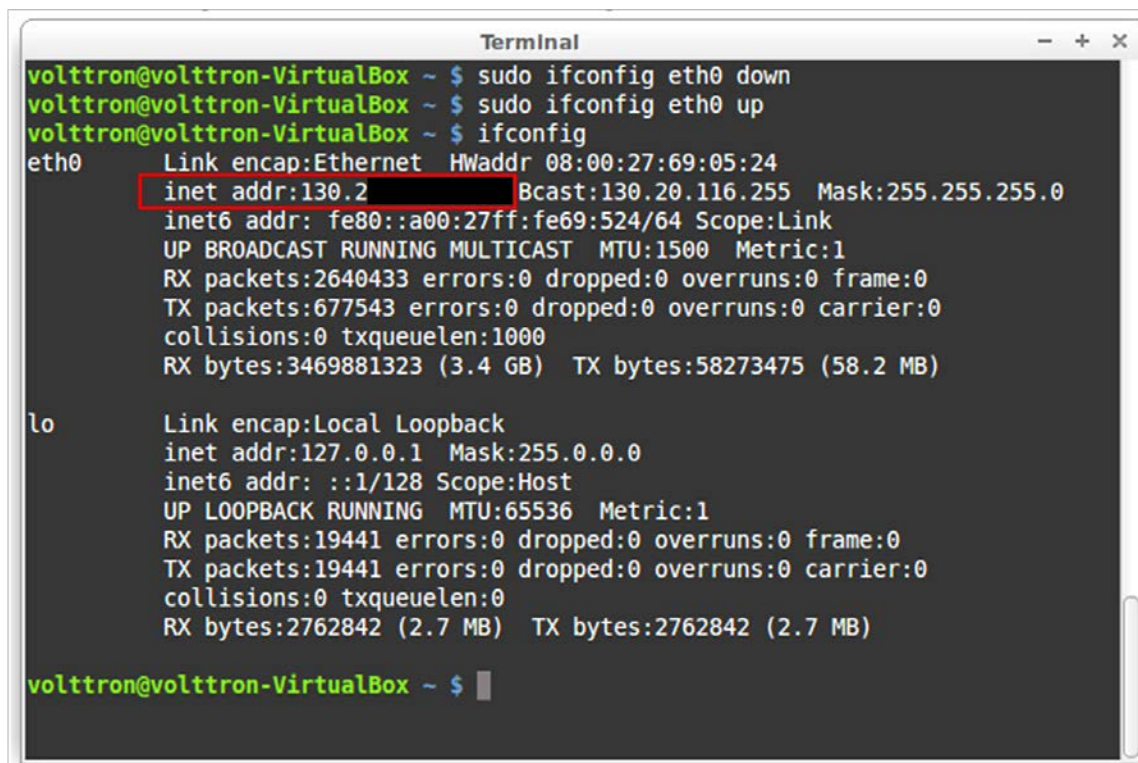

Figure 32: Identifying IP Address on VirtualBox
- To view the IP enter the following command (the IP will be listed under eth0 or wlan0, depending on whether the network connection is wireless or wired as shown in Figure 32 boxed in red):